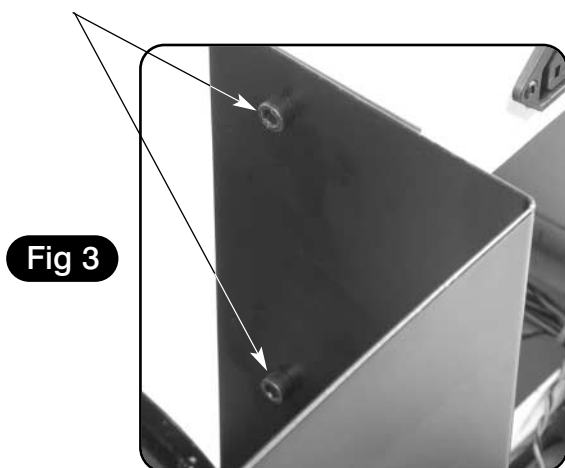

Fig 3
2) Locate a 5mm allen key and 10mm spanner, remove the two caphead bolts and nuts that secures one side of the splash guard to the headstock. ( See fig 3 & 4)